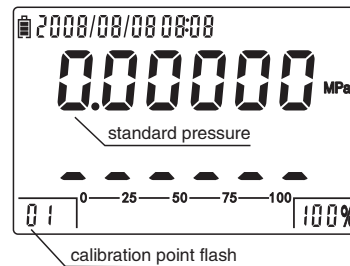
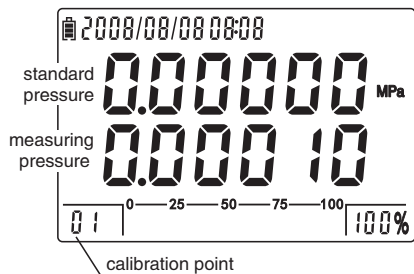
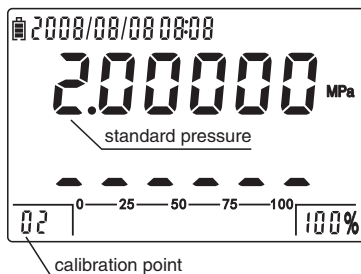
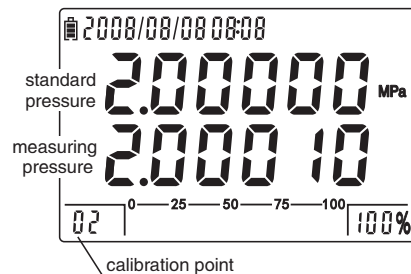

Figure 5-3-1: 1st point entrance
Figure 5-3-2: 1st point calibration
Figure 5-3-3: 2nd point entrance
Figure 5-3-4: 2nd calibration
- (1) Press to enter into passport menu, input the password "2003" and press to enter into calibration menu.
- (2) Select **IP_CAL** and press to enter into the entrance interface. The **【 01 】** of left reading area is 1st calibration point, the user can select points by using . Please press to start calibration. (as figure 5-3-1)
- (3) The first line flashes to remind the user to input the standard pressure of 1st point. (In this example, it is 0.00000 MPa)
- (4) As figure 5-3-2, screen displays the interface of 1st calibration point. Please supply 0.00000 MPa pressure, and press  to finish the 1st point calibration after it is stable. As figure 5-3-3, switch to the 2nd point calibration interface.
- (5) Under the interface of 2nd calibration point, the first line flashes for new standard pressure. In general, it is the default (In this example, it is 2.00000 MPa), press  for next step.
- (6) As figure 5-3-4, screen displays the 2nd point calibration interface. Please supply 2.00000 MPa pressure and press  to finish the 2nd point calibration after it is stable. The screen switches to the interface as figure 5-3-1 and the calibration is finished.
- (7) Press  to return to the calibration function menu. The calibration is effective if **2P_0** changed to **2P_1**.